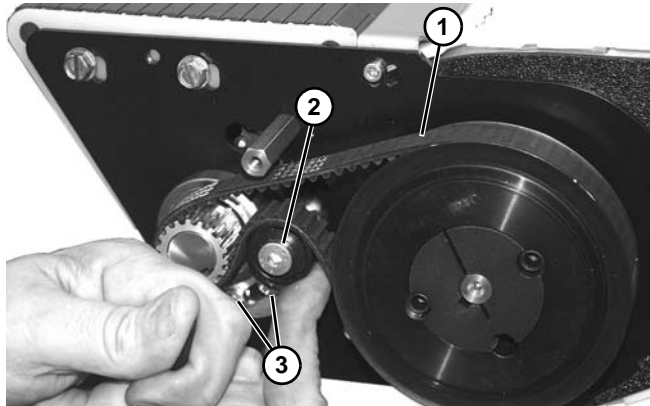

Figure 166
- On idler end, route and install belt (**Figure 166, item 1**) as shown. Press up on tensioner (**Figure 166, item 2**) and tighten two socket head screws (**Figure 166, item 3**).